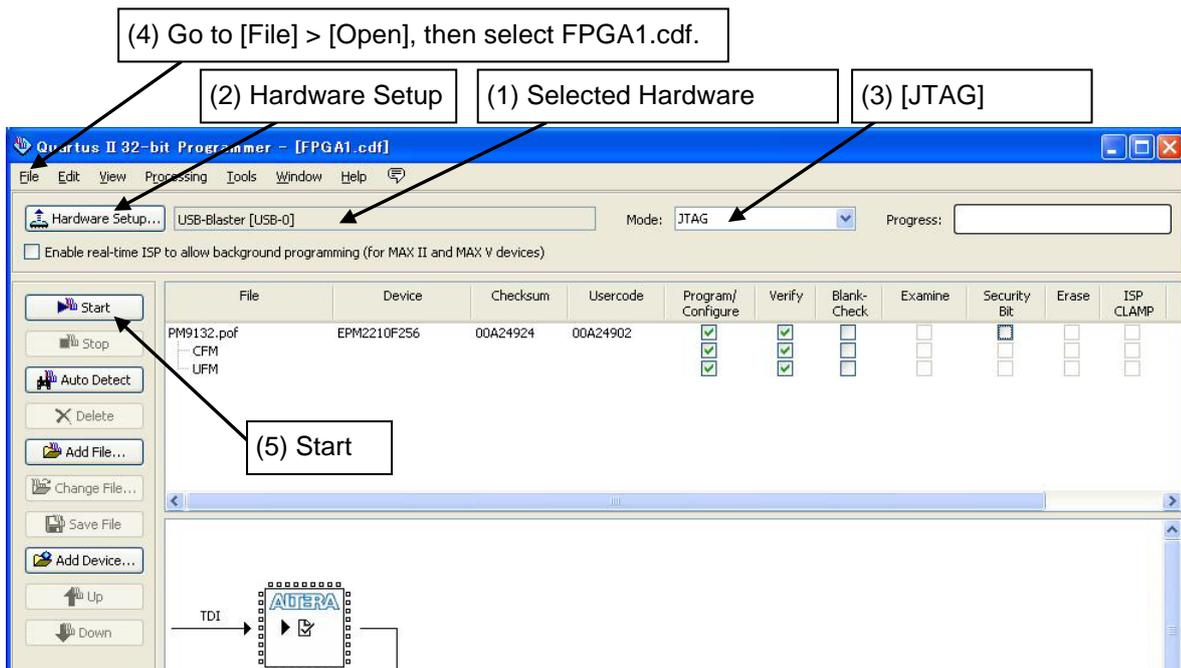

Fig. 34 CPLD Setting window
5. Check that ByteBlaster II (or USB Blaster) is selected (Fig. 34. (1)).
If ByteBlaster II that is connected to PC is not selected, or "No Hardware" is displayed, click [Hardware Setup](Fig. 34. (2)) and select the connected ByteBlaster II (or USB Blaster).
6. Select [JTAG] under [Mode] (Fig. 34. (3)).
8. Go to [File] > [Open], then open FPGA1.cdf. (Fig. 34. (4)).
9. Click Quartus II Programmer [Start] to update (Fig. 34. (5)).